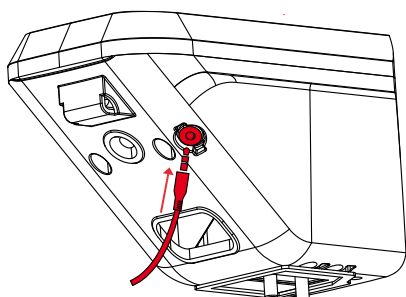

Figure 3.3 Connecting diagnostics to the semi-integrated down tube battery
- 2 Connect the diagnostic cable to the bicycle using the 3.5 mm jack connector (Fig. 3.3).